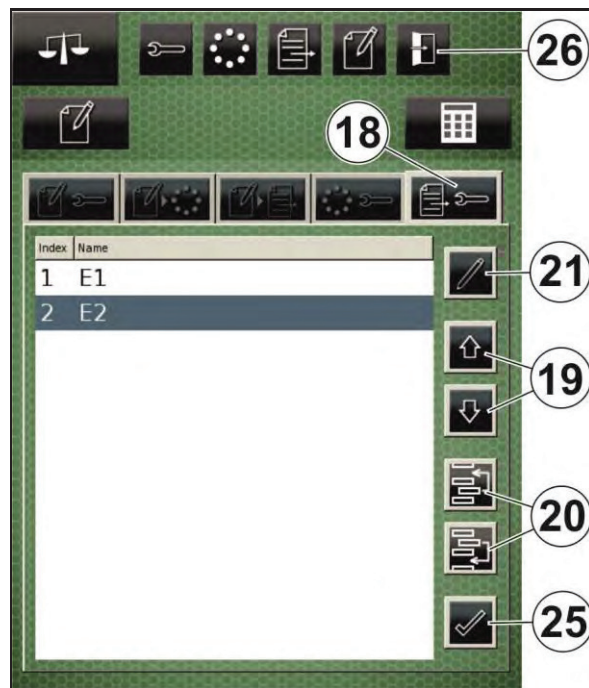

Fig. 208
20. Press the "Confirm" key (Fig. 208/25) to save the new or changed recipe.
21. Press the "Exit menu" key (Fig. 208/26) to call up the basic configuration of the terminal.